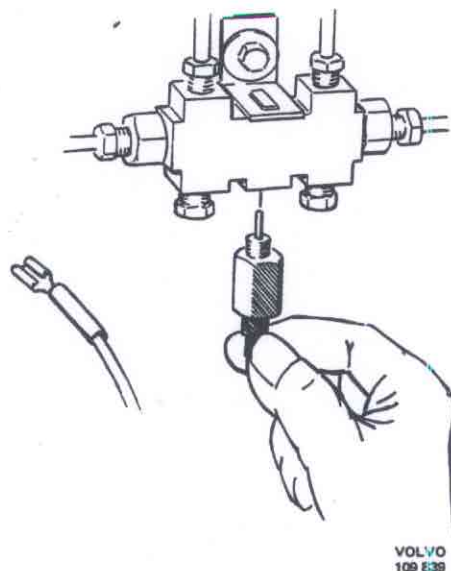

Fig. 50-9. Removing the contact
5. Open a bleeder nipple. Turn the ignition key and check that the warning lamp goes on when the parking brake is applied. Release the parking brake. Carefully apply the service brakes until the warning lamp goes on. If it does not, change the contact, see Fig. 50-9.
NOTE! Disconnect the electric cable and screw out the contact, see Fig. 50-9, so that the warning valve returns to normal position. Screw in the contact carefully (approx. 15 Nm = 1.5 kpm = 11 lbftf).